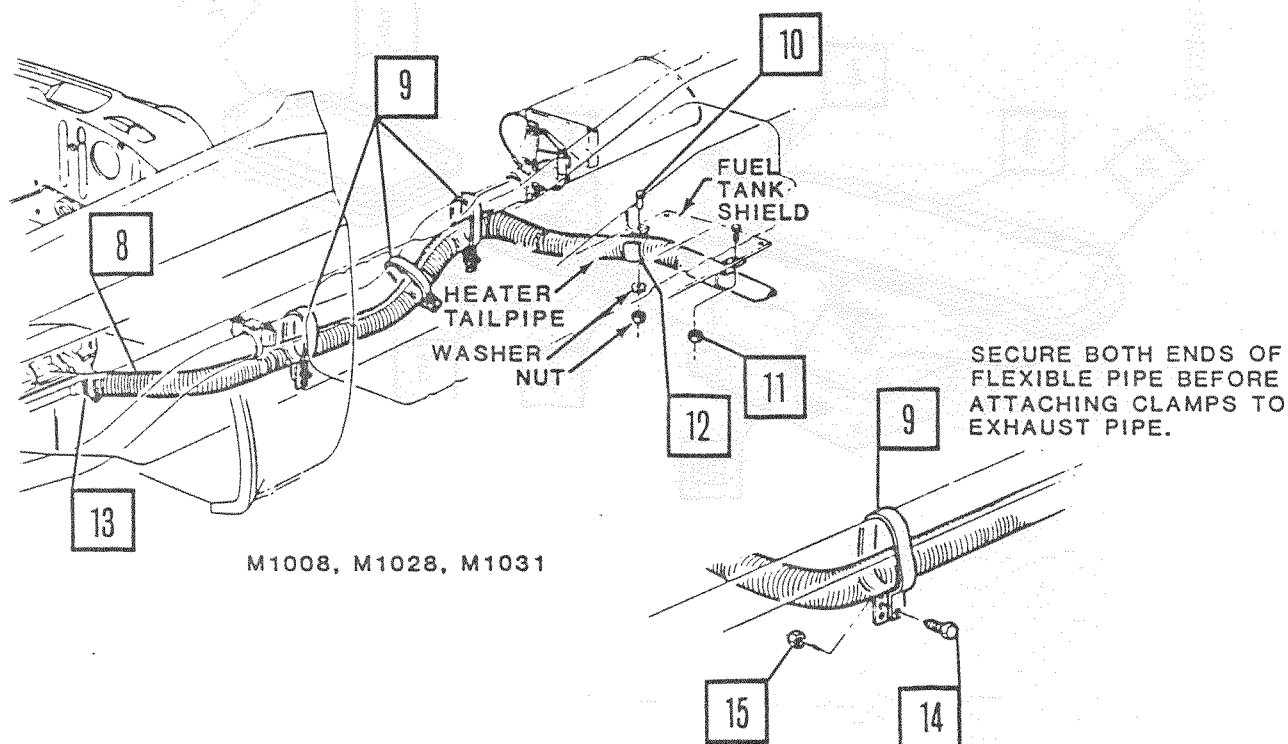

Figure 3.
37. Attach new heater tailpipe to transmission pan outlet with clamp. Route pipe along existing exhaust pipe and attach clamps an equal distance apart along existing exhaust pipe (Figure 3.). Tighten to 50-60 lb.-in. (6.0-8.0 Nm).
38. Secure end of heater tailpipe to stone shield in front of left rear wheel with nut and bolt (Figure 3.). Tighten to 8-11 lb.-ft. (11.0-15.0 Nm).